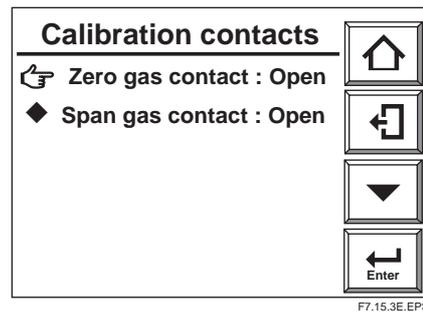

Figure 7.15.3 Calibration Contact Check Display
- (1) Referring to Section 7.10.1, display the contact check display.
- (2) Select the Calibration contacts to display the panel display as Figure 7.15.3 shows.
- (3) Perform the same action as in the previous section to cause the zero-gas and span-gas contacts to act; this will help check the automatic calibration unit and wiring connections.